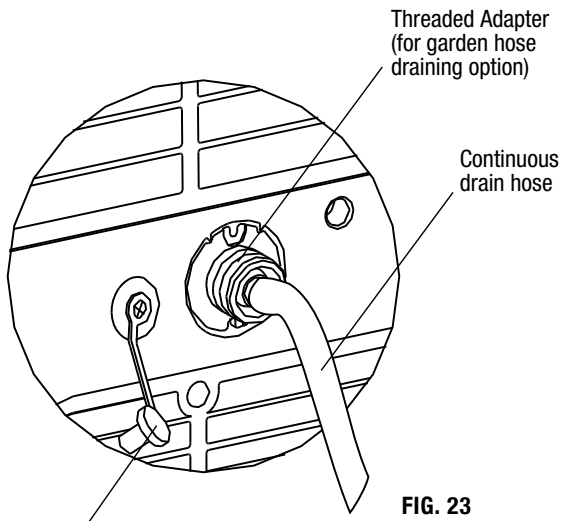
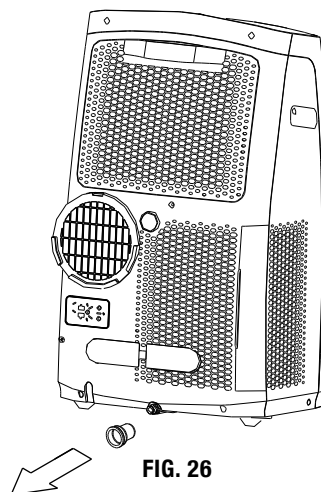

FIG. 23
FIG. 26
During dehumidifying mode, remove the upper drain plug from the back of the unit and attach 3/4" vinyl tube included with the unit (5/8" outer diameter). If a longer hose is needed, a vinyl tube (3/4" inner diameter 5/8" outer diameter) can be purchased at a local hardware store or a standard garden hose (not included) may be attached to the threaded adapter and used for continuous draining. (A hose length of no greater than 6 ft is recommended.) Place the open end of the hose directly over the drain area in your floor. See Fig. 23 & 24.
When the water level of the bottom tray reaches a predetermined level, the unit beeps 8 times and the digital display area shows "P1". At this time the air conditioning/dehumidification process will immediately stop. However, the fan motor will continue to operate. (This is normal.) Carefully move the unit to a drain location, remove the bottom drain plug and drain the water (Fig. 26). You can carefully tilt the unit back slightly to assist with drainage. Restart the machine until the "P1" symbol disappears. If the P1 symbol will not clear after following the above instructions and waiting a few minutes after restarting the machine, call Consumer Services.
- Remove the rubber plug on the back of the unit and attach a hose to drain outlet. Place the open end of the hose directly over the drain area in your basement floor or over a shallow pan (if no floor drain is available.) (See Fig. 23 & 24.) Remove the plug from the bottom drain outlet; the water in the bottom tray will drain out. (See Fig. 26.) Carefully tilt unit back slightly to assist with water drainage from bottom drain outlet.